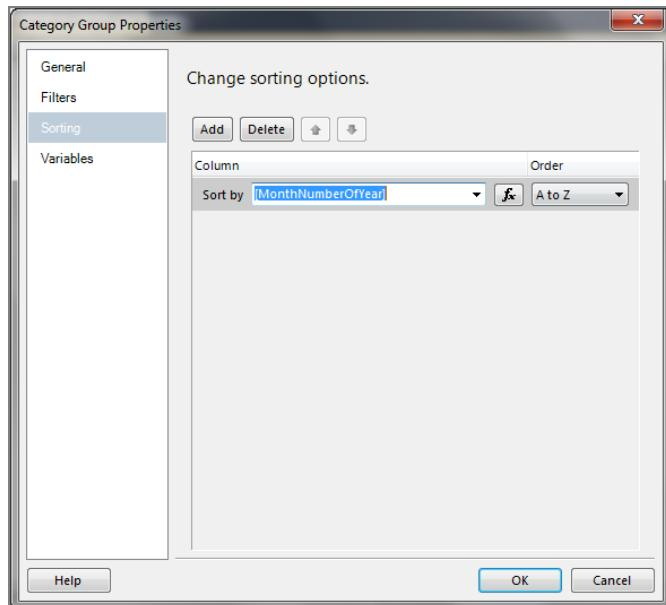

Figure 10-7
6. The default behavior for the Chart control is to sort the category groups by name. For the months to display in the proper order, the sort order must be manually defined. Define the sort order by selecting the drop-down arrow on the `EnglishMonthName` and selecting Category Group Properties. In the Sorting window, define `MonthNumberOfYear` as the Sort by option (as shown in Figure 10-7).